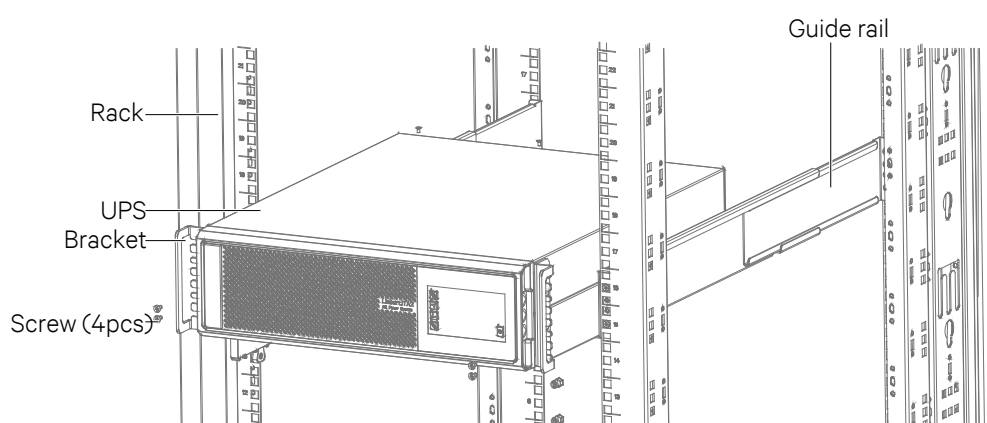

Figure 2-14 Installing the UPS
3. Place the UPS on the guide rails in the rack, and push it completely into the rack. Use four M6 × 16 screws to fix the UPS in the rack through the brackets, as shown in Figure 2-14.